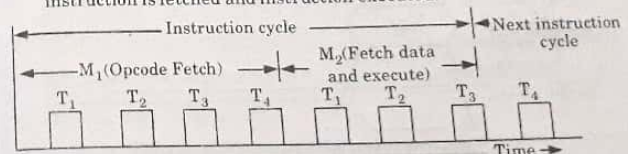

Fig. 2.7.1. A typical instruction cycle.
- Fig. 2.7.1 exhibits instruction cycle and machine cycle within it. It shows two machine cycles M_1 and M_2 .